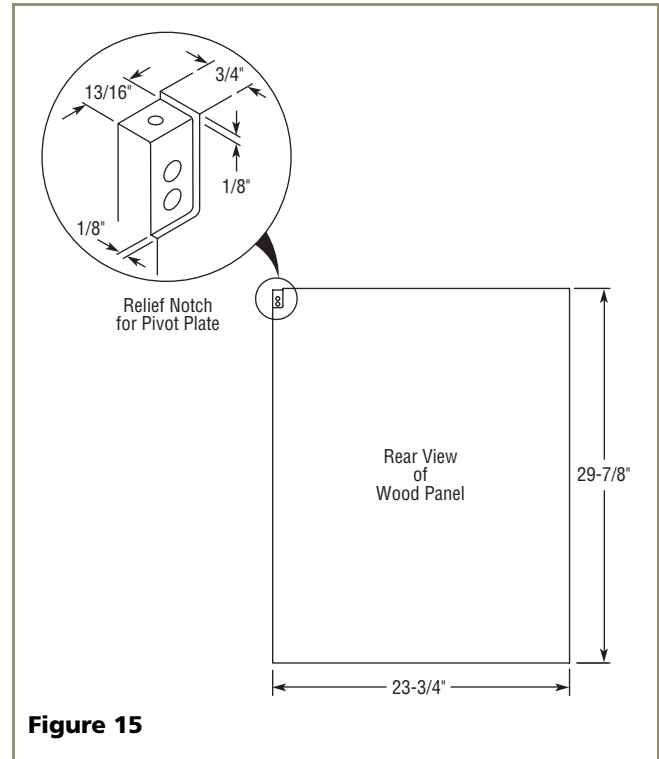
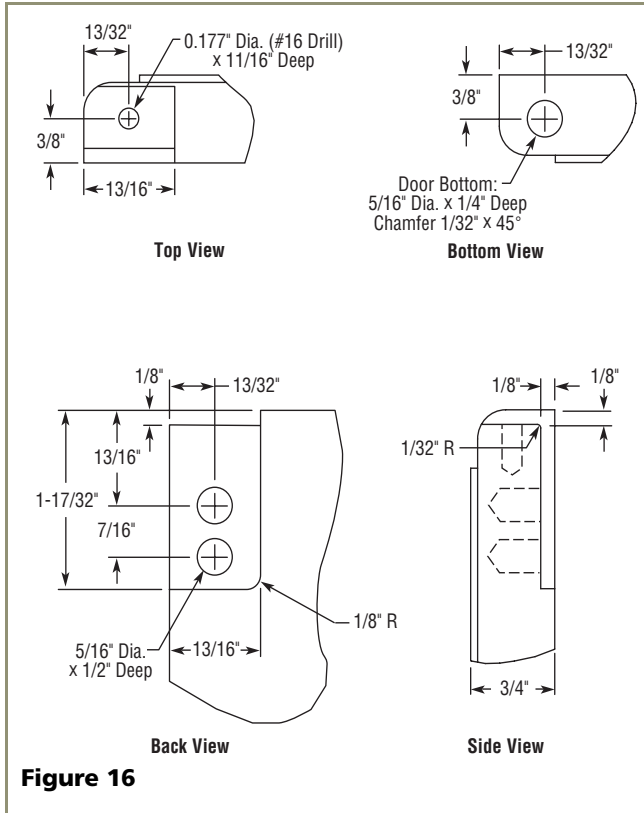

Figure 15
Figure 16
1. Cut the overlay to the following dimensions (see **Figure 15**).
2. Create a relief (**Figure 15**) for pivot plate by cutting notch in top corner and coinciding back corner of overlay panel. Refer to **Figure 16** for exact specifications.
3. Drill holes for pivot plate mounts (see **Figure 16**, Back View).
4. Drill hole for upper door hinge (top of panel) (see **Figure 16**, Top View).
5. Drill hole for lower door hinge (see **Figure 16**, Bottom View).